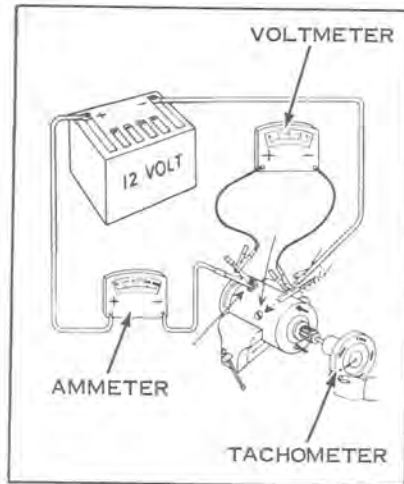

Figure 7-43
- Connect starter, with an ammeter in series, to a 12-volt source (see Figure 7-43). Use a tachometer or rpm indicator to indicate armature speed.